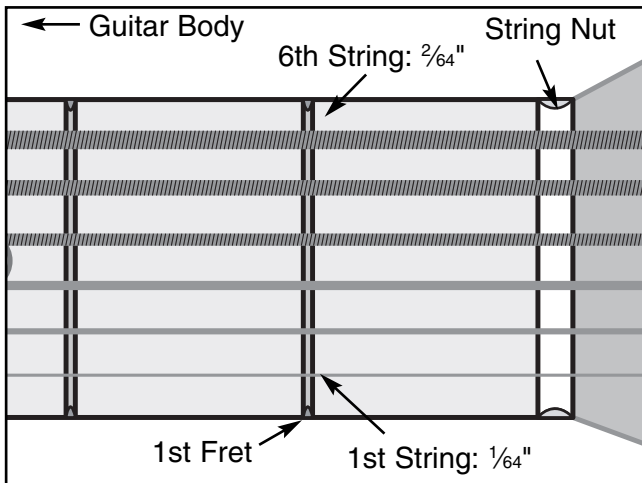

Figure 33. Correct 1st fret string heights.
1. Measure the string heights at the 1st fret (Figure 33).
- If the string heights are correct (Figure 33), then move to checking the string heights at the 12th fret.